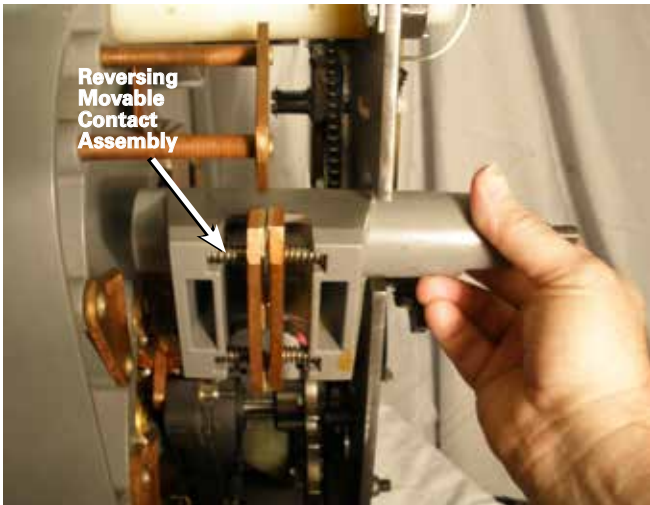

Figure 38. Rotating of reversing movable contact.
- Rotate the reversing movable contact counter clockwise until the movable contact assembly disengages from the reversing neutral stationary contact and remove it from the tap-changer. See Figure 38.